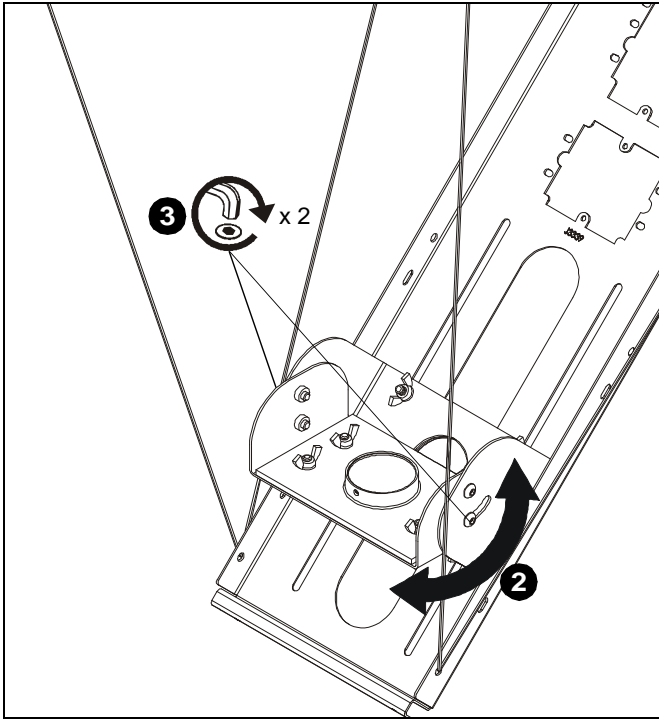

Figure 7
2. Adjust angle of inner plate of CMS495 adapter until it is positioned so that extension column will be installed straight down through the ceiling. (See Figure 7)
3. Tighten angle adjustment screws to secure angle of inner plate of CMS495 adapter. (See Figure 7)